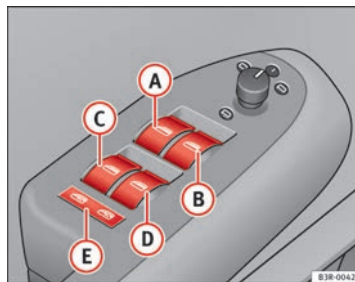

Fig. 79 Detail of the driver door: Controls
- A** Switch ⇒ fig. 79 for the driver door window